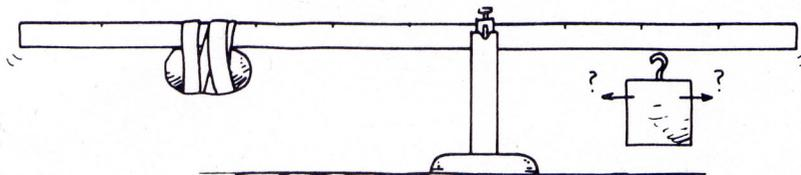

Figure 19.3
Step 9. If a rock is attached to your meterstick away from the midpoint, the new CG of the combined meterstick plus rock is not in the center. Use masking tape to attach the rock to the meter stick between the 0-cm and 50-cm mark. Move the fulcrum to the 60-cm mark, as shown in Figure 19.3. Hang a known mass between the 60-cm and 100-cm mark to balance the meterstick. Record the mass used and its position.